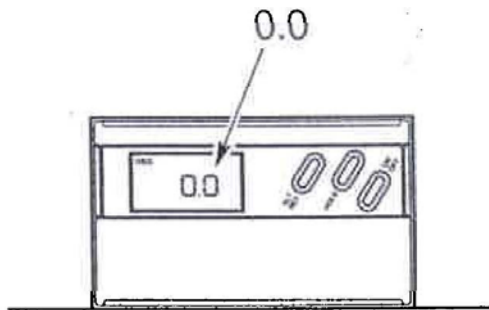

Figure 3
7. Press "Hold" button. Unit will read "0.0" within five (5) seconds.
8. Position unit on reference surface, display facing towards you. See Figure 3.